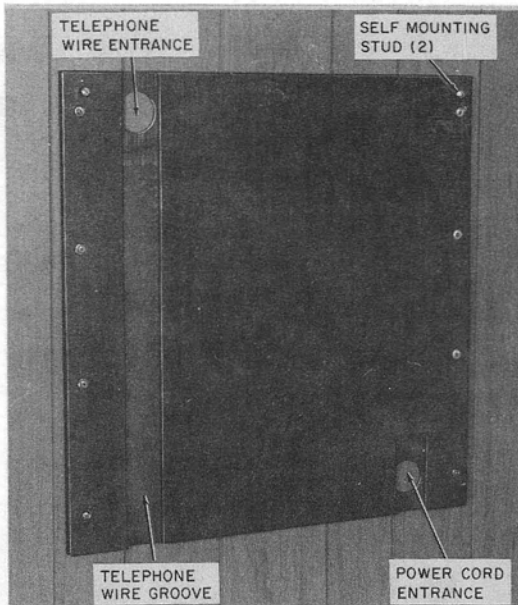

Fig. 4—Wooden Backboard For KS-21571 Shelf
- Wooden backboard (Fig. 4) (for mounting shelf to wall)
2.04 The wooden backboard (Fig. 4) is designed with two 2-inch diameter holes. One in upper left corner for telephone wire entrance and one in lower right corner for power cord. The grooves are provided for wire runs.